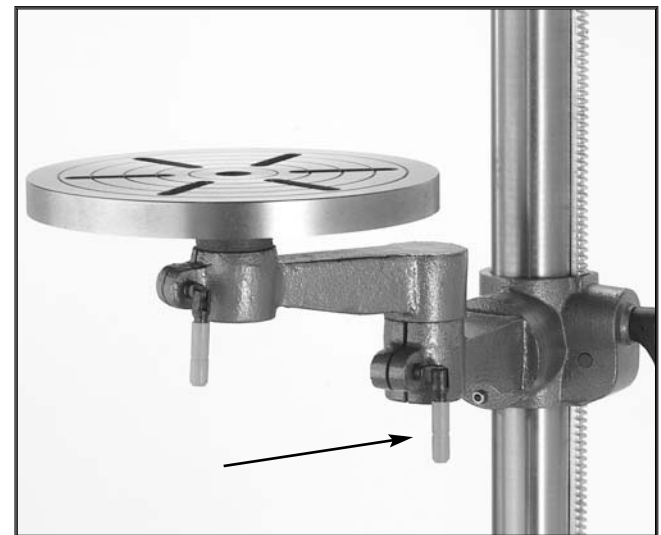

Figure 15. Adjusting distance from column.
1. Loosen the lock handle located at the pivoting elbow of the table support. See **Figure 15**.